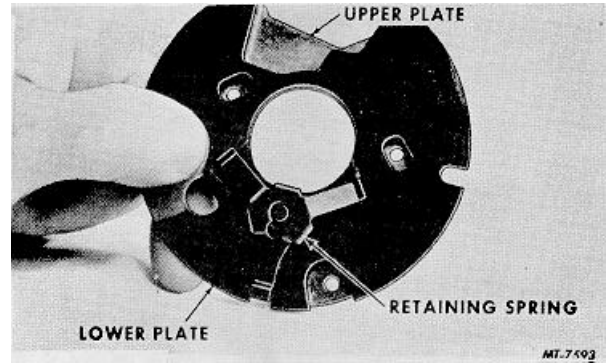

Fig. 19 Plate Retaining Spring
- To separate upper and lower plates, remove retaining spring from bottom side of lower plate (Fig. 19).